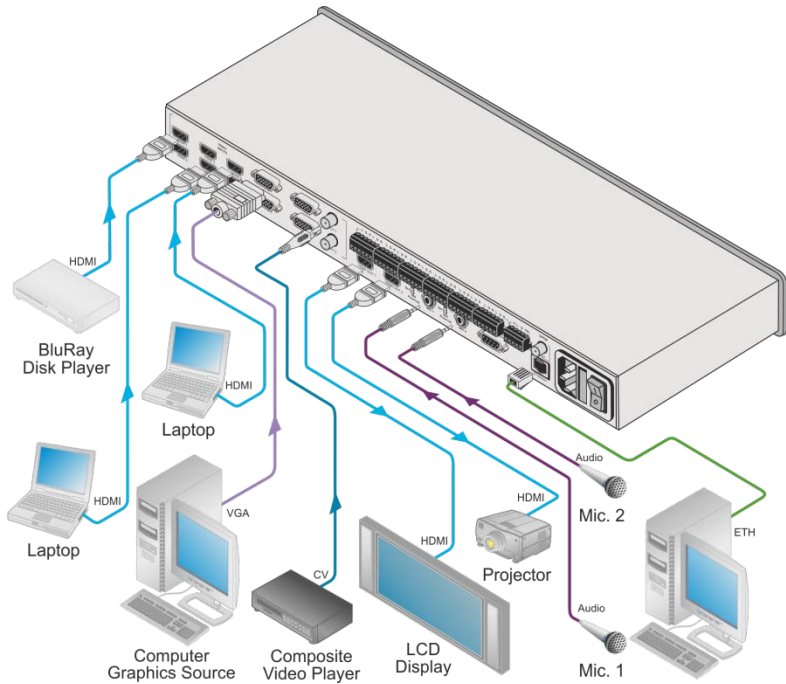

Figure 3: Connecting the VP-445 Presentation Switcher / Scaler
To connect the **VP-445**, as illustrated in the example in Figure 3, do the following:
4. Connect the audio input signals to the AUDIO IN terminal block connectors, as required (not shown in Figure 3).
7. Connect the audio output signals to the OUT stereo analog audio acceptor and/or the digital audio acceptor, as required (not shown in Figure 3).
8. Connect the power cord (not shown in Figure 3).